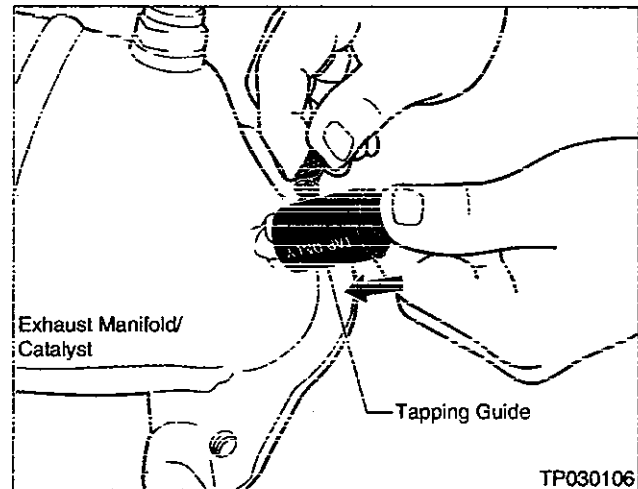

Figure G4
5. Install (push down until fully seated) and tighten the Tapping Guide (identified by "TAP ON! Y") onto the drilled-out "boss" (see Figure G4).